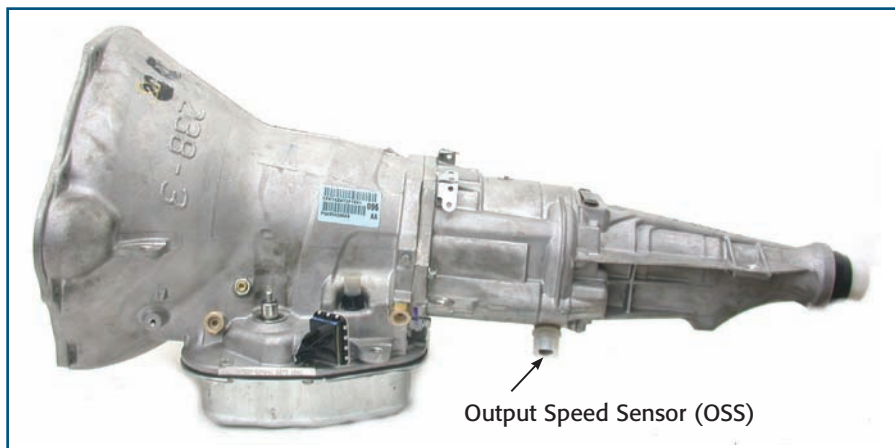

Figure 2
1. Output Speed Sensor (OSS) (figure 2) — provides the computer with a signal that it uses to determine road speed. If the computer doesn't receive an OSS signal, the computer won't open the governor solenoid, keeping governor pressure at zero PSI.